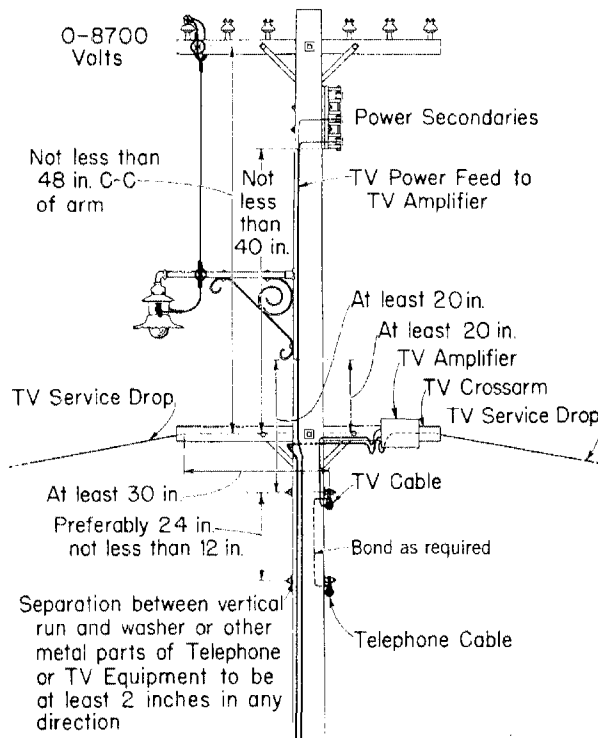

Fig. 24
13.01 Television distribution systems which are not owned by the Telephone Company require the same clearances from power facilities as telephone facilities. Such TV facilities should preferably have 24 inches clearance² from telephone cables but not less than 12 inches clearance.² Figs. 24 through 28 illustrate the general requirements for foreign-owned television distribution systems.